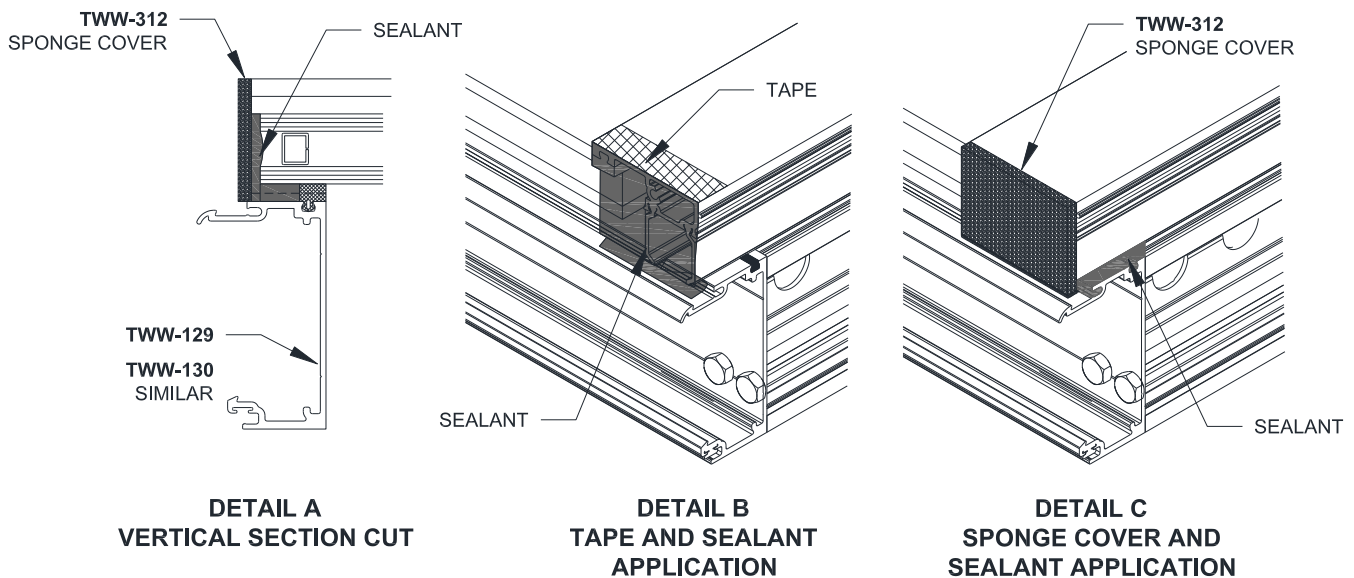

Figure 58: SSG End Cap Sealing
16.5.7 Tape the end of the front face and apply silicone sealant to the ends of the glass and the front glazing pockets. Tape location shown in Figure 58, Detail B.
16.5.8 Apply the **TWW-312** Sponge Cover to sit centered and flush with the edge of the front face. Temporarily tape the cap in place, being careful to not pull off center. Reference Figure 58, Detail C.
16.5.9 Repeat 16.5.7 and 16.5.8 on all four corners at all Head and Sill conditions. Finished corners should resemble Figure 58, Detail A.